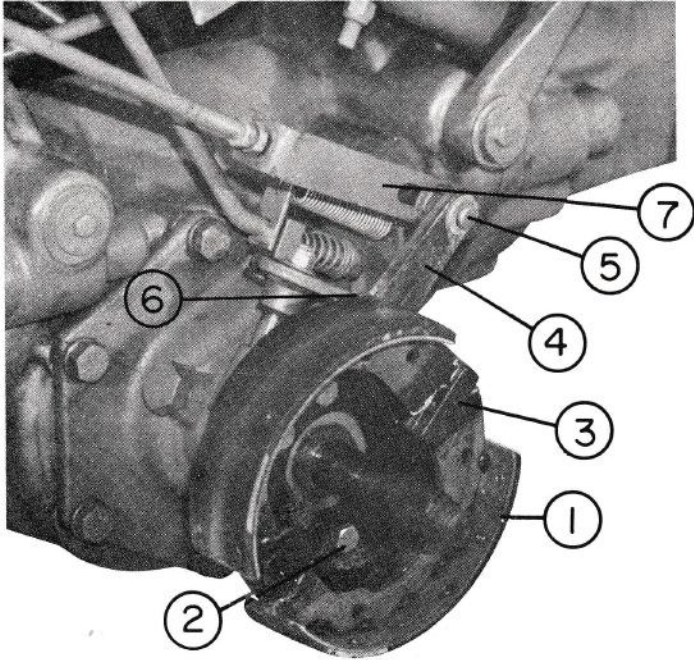

Fig. 7
- Install the brake shoe assembly on the axle with the four bolts removed in step 4. Align the bolt holes so the brake cam is on top. See fig. 7. Do not tighten the bolts at this time.
14. Fasten the adjustment bracket to the cam lever arm with a clevis pin and two washers, one on each side of cam lever arm and secure with cotter pin. See fig. 7.